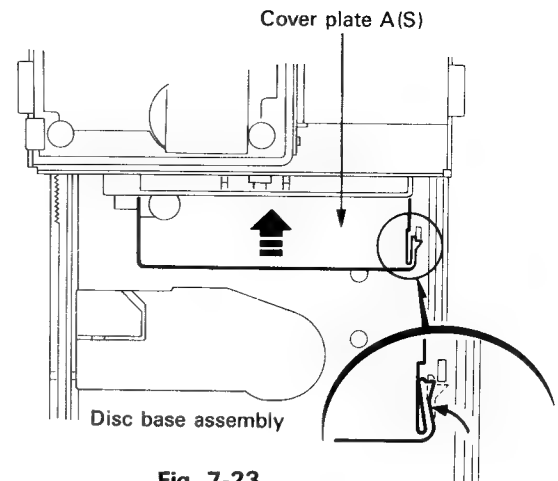
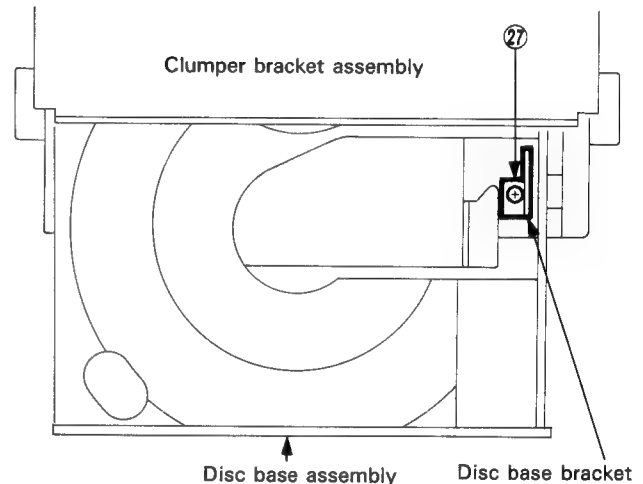

Fig. 7-23
Fig. 7-24
(Refer to Figs. 7-23 and 24)
3. After turning over the CD changer mechanism assembly, turn the gear G4 manually in the direction of arrow as shown in Fig. 7-23, and raise the CD mechanism assembly.
5. After turning over the CD changer mechanism assembly, move the point ③ engaging the cover plate A (S) and disc base assembly in the direction of arrow and disengage the above plate and assembly.
6. After turning the CD changer mechanism assembly back to the normal position, remove the one screw (27) retaining the disc base bracket visible from notched window of the disc base assembly (Refer to Fig. 7-24).